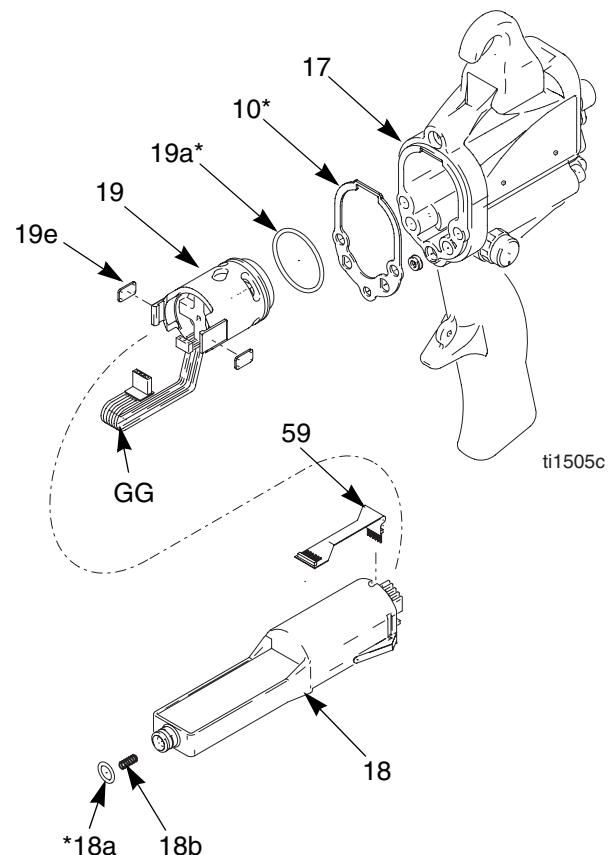

Fig. 30. Power Supply
- Grasp the power supply (18) with your hand. With a gentle side to side motion, free the power supply/alternator assembly from the gun handle (17), then carefully pull it straight out. *On Smart Models only*, disconnect the flexible circuit (59) from the socket at the top of the handle (17). See FIG. 30..
- Disconnect the 3-wire connector (GG) from the power supply. Slide the alternator up and off the power supply. Inspect the power supply and alternator for damage. *On Smart Models only*, disconnect the 6-pin flexible circuit (59) from the power supply.